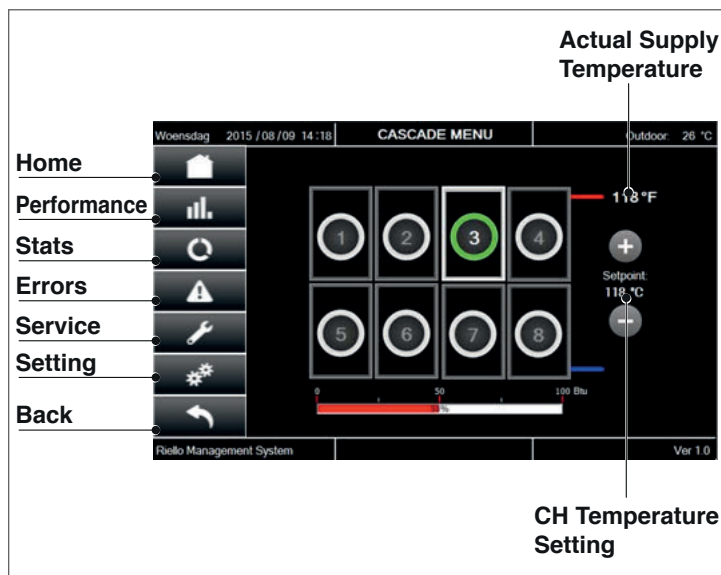

Fig. 47 Cascade Screen
- The boiler will fire only when there is a call for heat and the heating temperature setting is higher than the actual supply temperature. Hold buttons "+" or "-" on the Cascade screen (Fig. 47) to select the desired heating temperature. If the external temperature sensor is connected (see Section "2.13.3 Outdoor Temperature Sensor" pag. 16), check that the calculated temperature is higher than the actual boiler temperature and that the outdoor temperature is lower than "warm weather shut down" temperature.